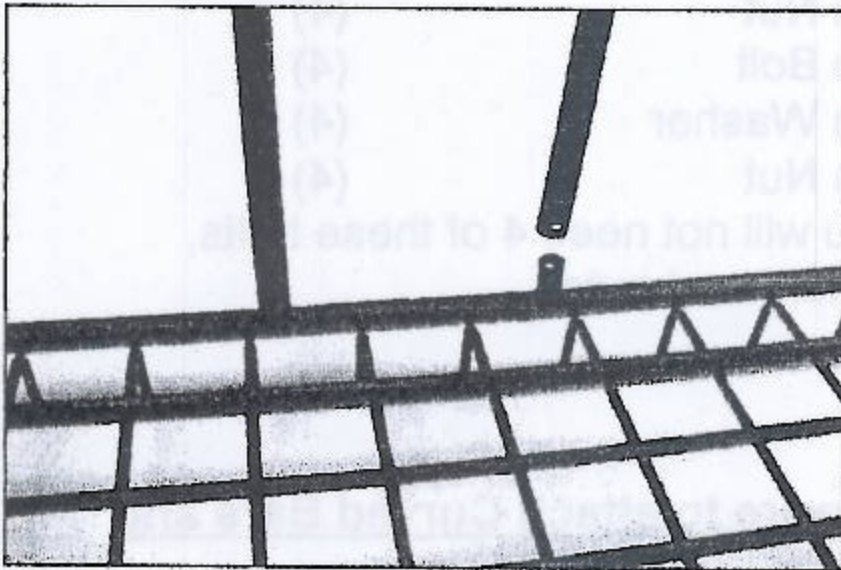

Figure 2
2. Loosely secure the (2) Straight Bars (item 4 on Page 1) to the inner posts as shown in Figure 2, using the included Carriage Bolts, washers, and nuts.